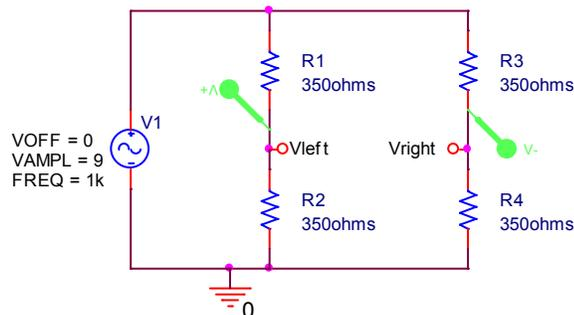

Figure A-1.
*Bridges and Voltage Dividers:* In Experiment 1, we looked at one of the simplest useful circuits – the voltage divider. In many simple applications of electronics, we have only a small number of standard voltages in whatever circuits we are building. When we use a 9V battery as our source we have only one voltage level available, unless we use a voltage divider to get smaller voltages. We can also use a divider, as pictured in Figure A-1, to measure resistance, if we have some device with an unknown resistance. For example, if we connect an unknown resistor in series with a known resistor, then the voltage across the unknown resistor can tell us the value of the resistance. An even better measurement can be done by combining two voltage dividers in a configuration like the one shown in the following figure. Note that if  $R_1 = R_2 = R_3 = R_4$ , the voltages at the two points marked  $V_{left}$  and  $V_{right}$  will be equal to half of the source voltage. Thus, their difference should be zero. Whenever the voltage difference across a bridge is zero, we say that the bridge is *balanced*.
The beam has two strain gauges wired together, replacing R3 and R4 in Figure A-1 of this document. It also has two matched  $350\Omega$  resistors. These are R1 and R2 of Figure A-1. The signals from the strain gauges are small, so a difference amp with a gain of 100 is required.